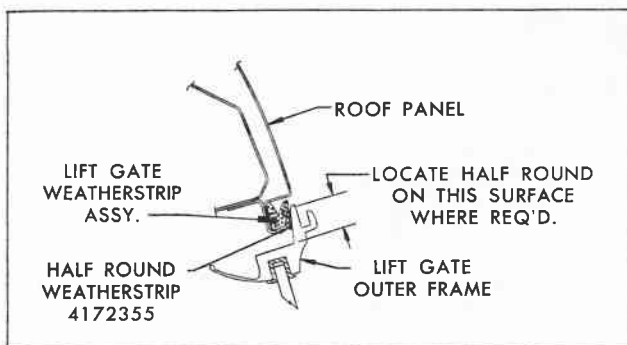

Fig. 6 Cross Section Through X-X Fig. 5
- c. Check contact of original or new weatherstrip to lift gate across the top of the gate. If sealing lip of weatherstrip does not contact the lift gate or has too little compression, install half round rubber weatherstrip to the lift gate, as shown in Section X-X, Fig. 6. It is important that half round rubber of proper size be used to insure adequate sealing. Generally, 1/4 inch thick half round rubber is satisfactory. (Group 12.269 Part No. 4172355)